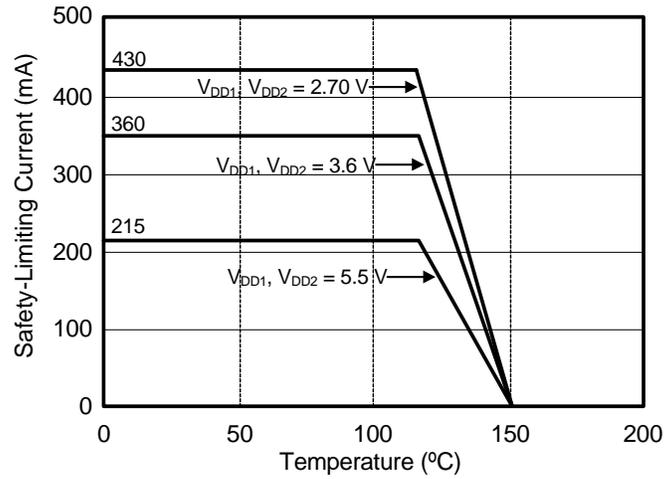

Figure 3. (NB SOIC-16) Thermal Derating Curve, Dependence of Safety Limiting Values with Case Temperature per DIN EN 60747-5-2
- Maximum value allowed in the event of a failure; also see the thermal derating curve in Figure 3.